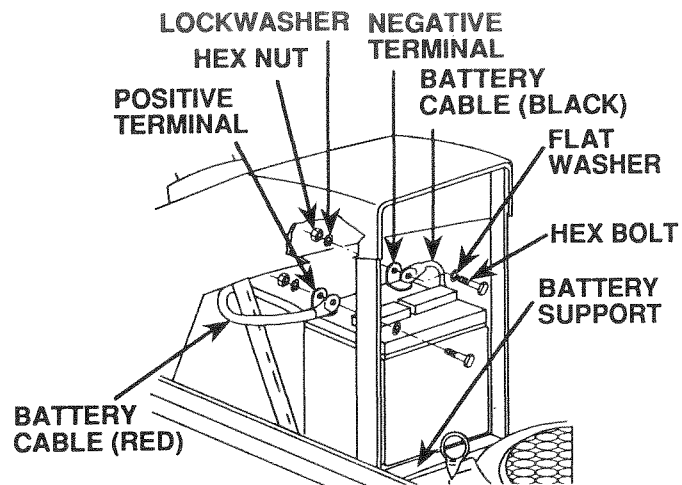
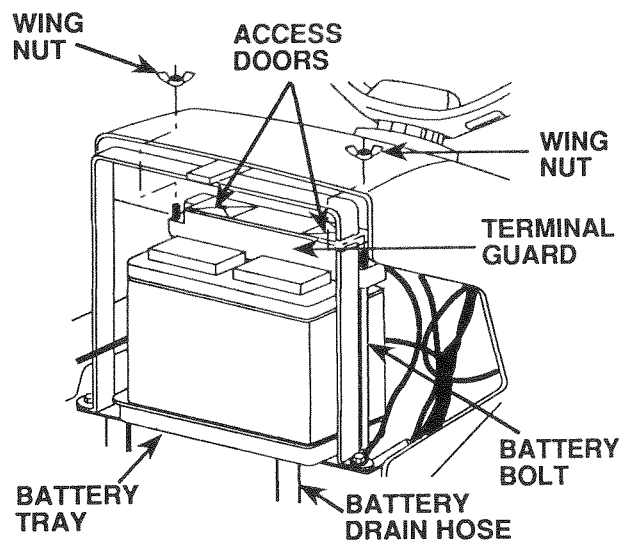

FIGURE 5
FIGURE 6
- Remove Tape from Plastic Tray. Make sure Drain Tube is fastened to Drain Hole in Battery Tray (Fig. 6) and Battery Tray is positioned in hole of Battery Support.
Place Battery in Plastic Tray (Battery Terminals to rear of Tractor) (Fig. 5).
1. Connect **RED** Battery Cable to positive (+) Battery Terminal with Hex Bolt, Flat Washer, Lockwasher and Hex Nut (Fig. 5). Tighten securely with two 7/16" wrenches.
Connect **BLACK** Ground Cable to negative (-) Battery Terminal with remaining Hex Bolt, Flat Washer, Lockwasher and Hex Nut (Fig. 5). Tighten securely.
- k. Using the square hole on one side of the Battery Support (Fig. 5) insert one Battery Bolt, head of Bolt down. Fasten the Battery Bolt to the Terminal Guard using Wing Nut as shown (Fig. 6).
Assemble the remaining Battery Bolt to other side of Battery Support and fasten Terminal Guard to it with remaining Wing Nut. Tighten Wing Nuts securely by hand (Fig. 6).
NOTE: USE TERMINAL ACCESS DOORS (FIG. 6) FOR: